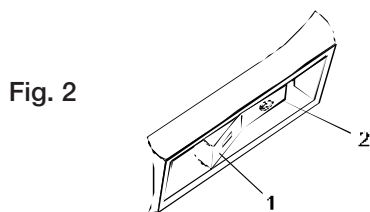

Fig. 2
To turn the switch ON, push on the lower part of the ON/OFF switch (1) (see Fig. 2). To turn the switch OFF, push on the upper part of the ON/OFF switch (2).